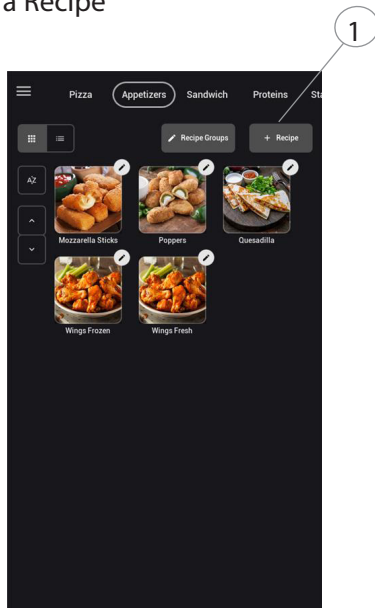

Figure 23: Edit Screen
1. Touch the +recipe edit button (1) in the top-right corner of the screen (Figure 23, above).